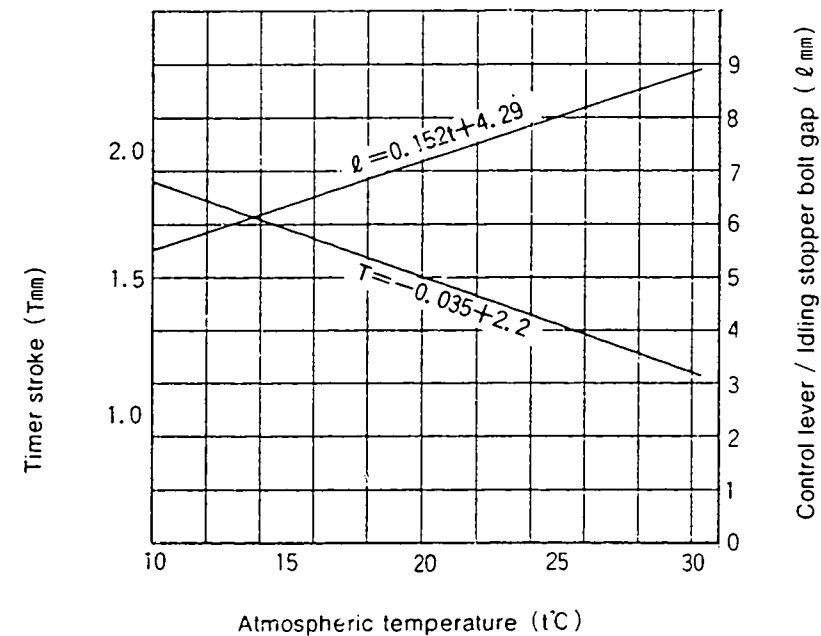

Fig. 2
- ① Using the graph (Fig 2) , determine the Timer Stroke according to the atmospheric temperature at the time of adjustment.
- ② Adjust using the Timer Stroke adjusting bolt so that the Timer Stroke corresponds to the value determined in ncte ① above.
- ① Insert a block gauge of  $5.3 \pm 0.05$  mm thickness in the gap between the control lever and the idling stopper bolt.
- ② From Fig 2 determine the dimension of the gap between the idling lever pin and the control lever according to the atmospheric temperature at the time of adjustment.
- ③ Adjust using the fast idle adjusting screw so that the gap corresponds to the value determined in note 2) ② above.